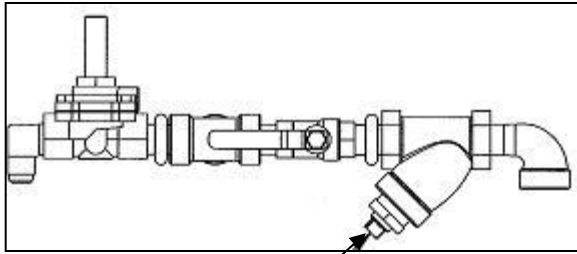

Fig. 4-3 – Remove gas strainer/filter at hex nut
6. Remove gas strainer as shown in Fig. 4-3 and clean.